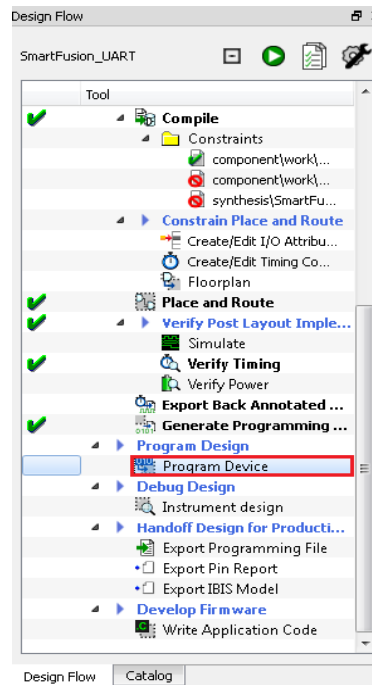

Figure 16 · Design Flow Window
1. Double-click **Program Device** under **Program Design** in the **Design Flow** window to program the SmartFusion cSoC device as shown in Figure 16 .